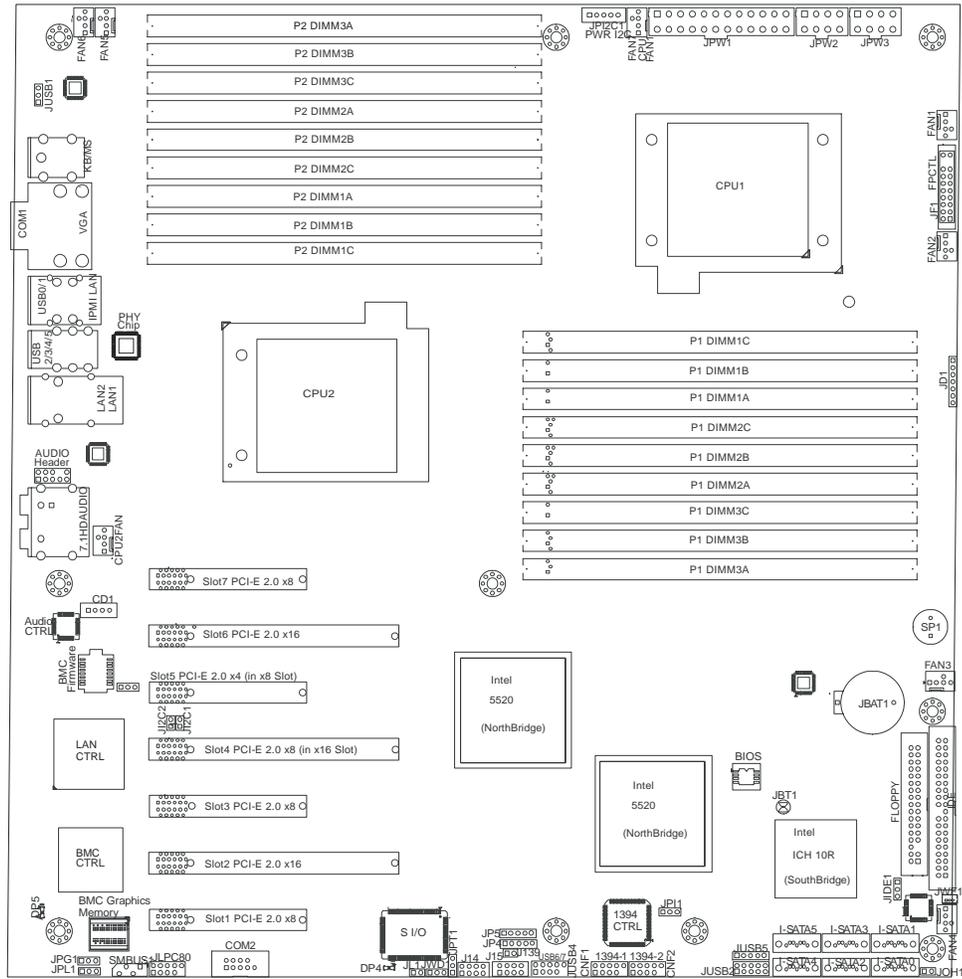
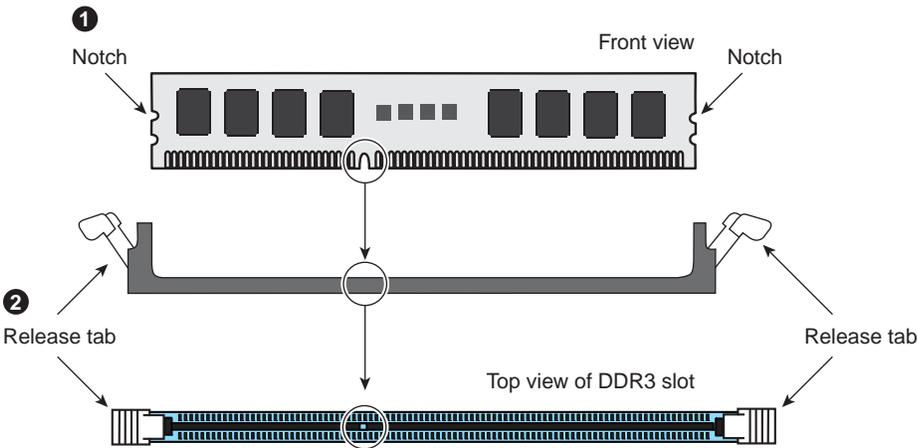
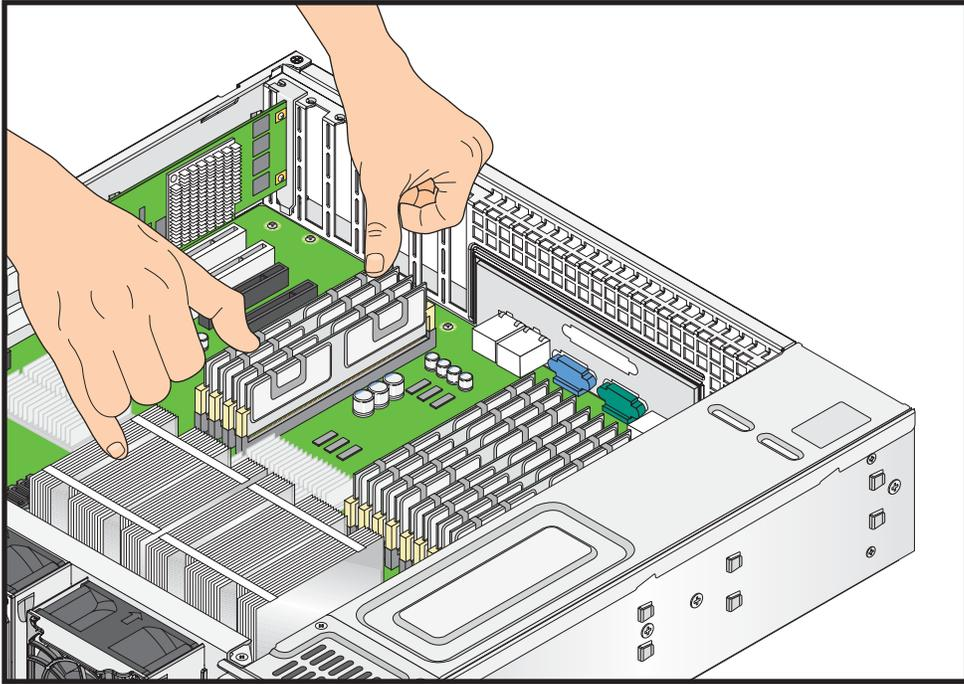
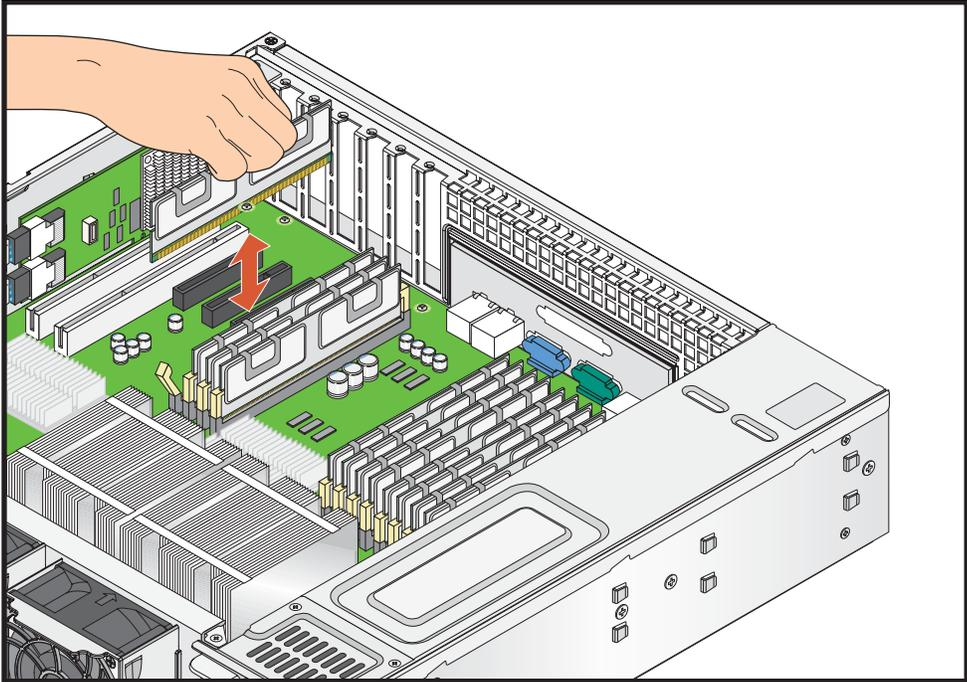

Figure 5-2 Node Board Layout
Figure 5-3 DIMM Installation
Figure 5-4 Installing DIMM Modules
Figure 5-5 Removing a DIMM Module
- If only one processor is installed, the single processor socket must be installed in the socket labeled CPU1 (See Figure 5-2). The other socket remains empty.
See Figure 5-2 for the general layout of the node board.
1. Insert the DIMM module vertically and press down into its slot until it snaps into place. Pay attention to the alignment notch at the bottom of the module to avoid installing incorrectly (see Figure 5-3 and Figure 5-4). Insert the desired number of DIMMs into the memory slots, beginning with DIMM #1A and DIMM #2A, then DIMM #3A and DIMM #4A, etc. (see Table 5-1). Always spread DIMMs across all three banks for each CPU (see Figure 5-2). Gently press down on the DIMM module until it snaps into place in the slot. Repeat for all modules.
2. To remove a DIMM module, use your thumbs to gently push the release tabs near both ends of the module (see Figure 5-3). This should release it from the slot (see Figure 5-5).